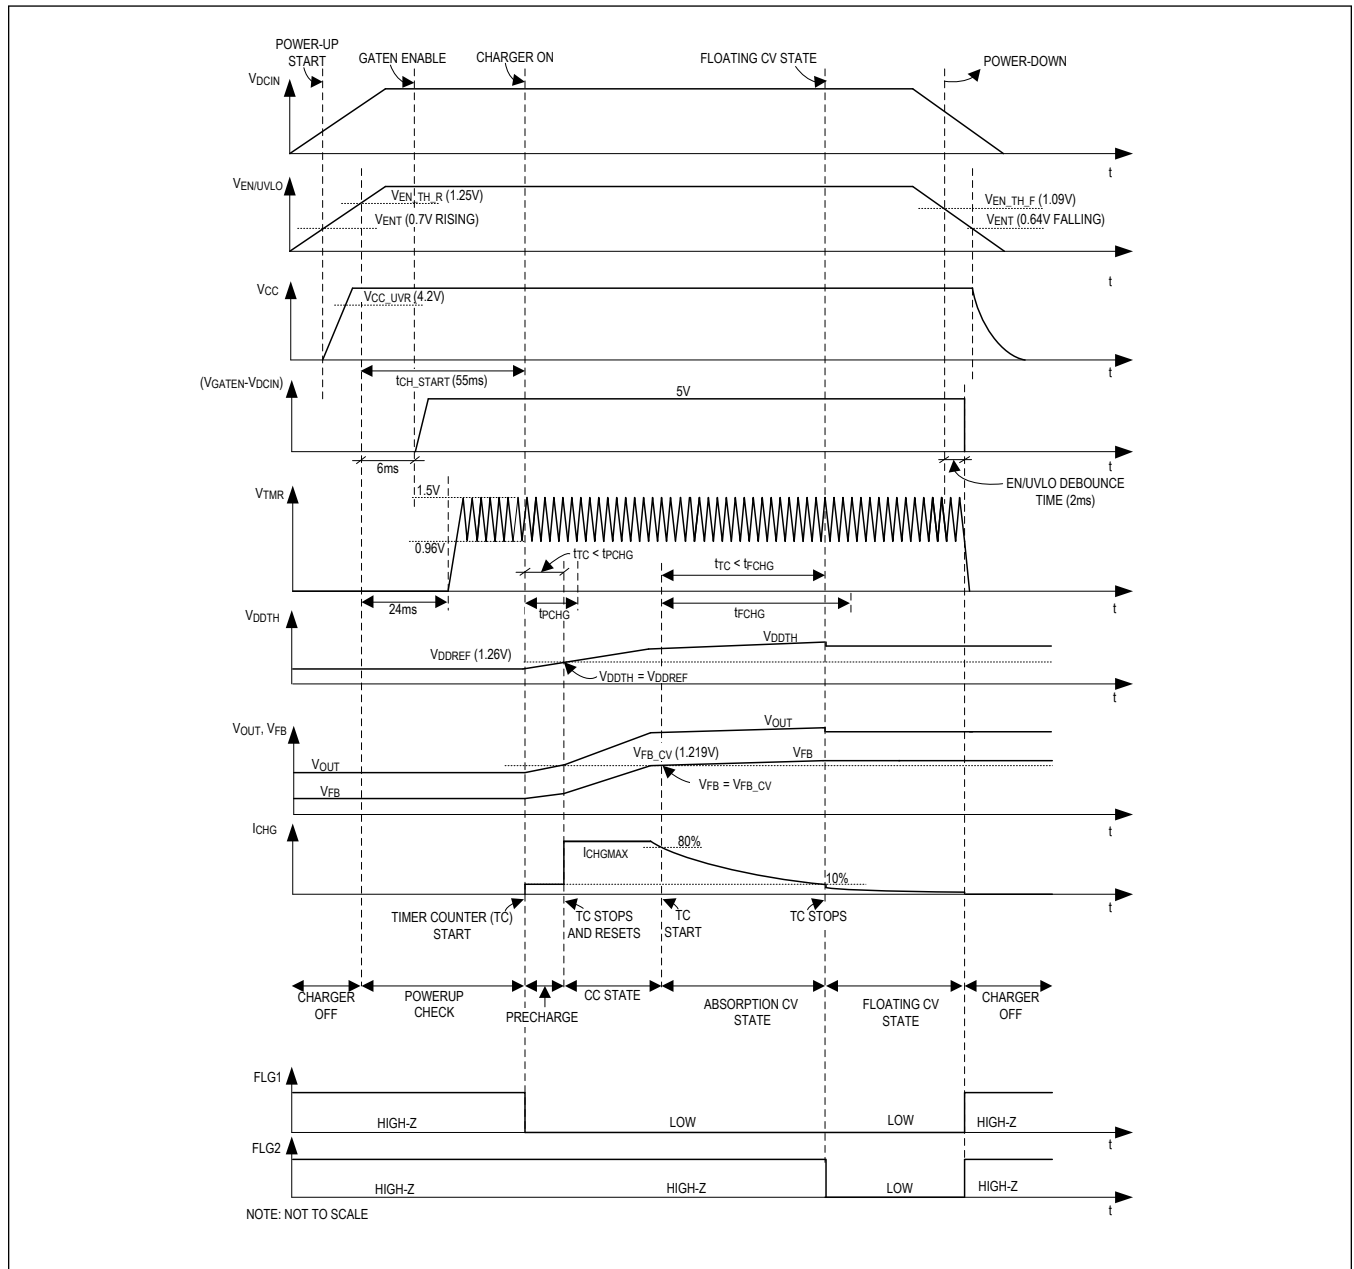

Figure 2. Charger Power-Up/Down Sequence and Pb-Acid Battery Charge Cycle
Figure 2 shows the MAX17702 power-up/down sequence when DCIN voltage is applied/removed, and a Pb-acid battery charge cycle. Figure 3 shows the MAX17702 charger-state diagram of the IC. MAX17702 offers precharge, constant-current (CC), absorption constant-voltage (CV), and floating constant-voltage states for charging the Pb-acid battery.